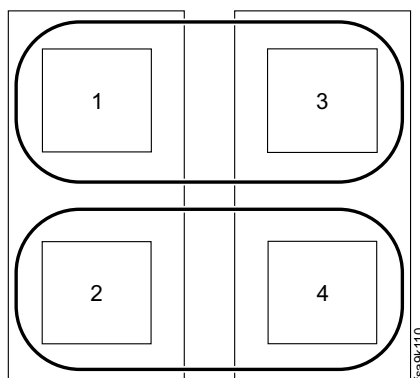

Figure 23. Crossing grid controller adapter ports
- Use both Fibre Channel or iSCSI adapters within each of the grid controllers, as shown in Figure 23.